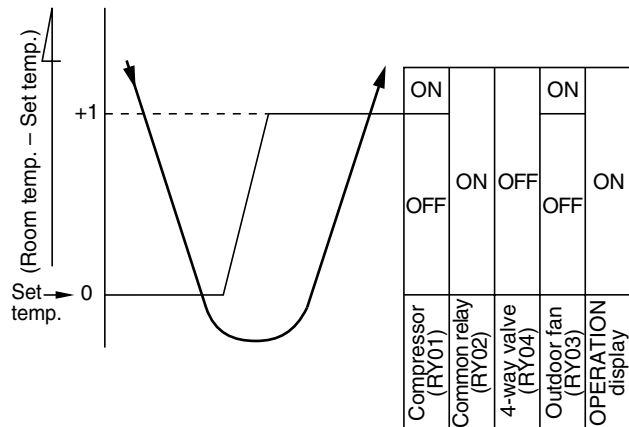

Fig. 7-2-1
- (1) Compressor, 4-way valve, outdoor fan and operation display are controlled as shown in Fig. 7-2-1.